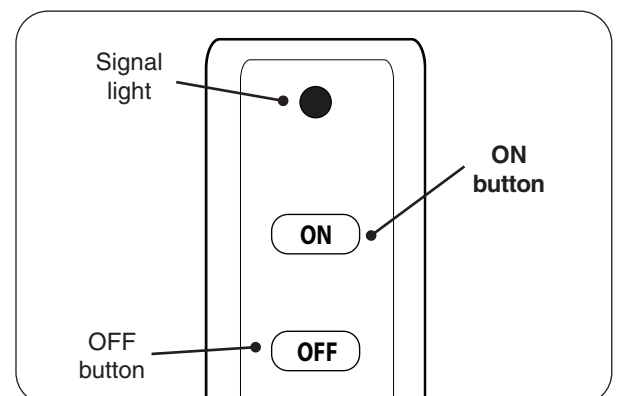

Fig. 43-3 Remote transmitter detail
4. Locate the remote transmitter and press the **ON** button (see Fig. 43-3). The ignition sequence will begin.